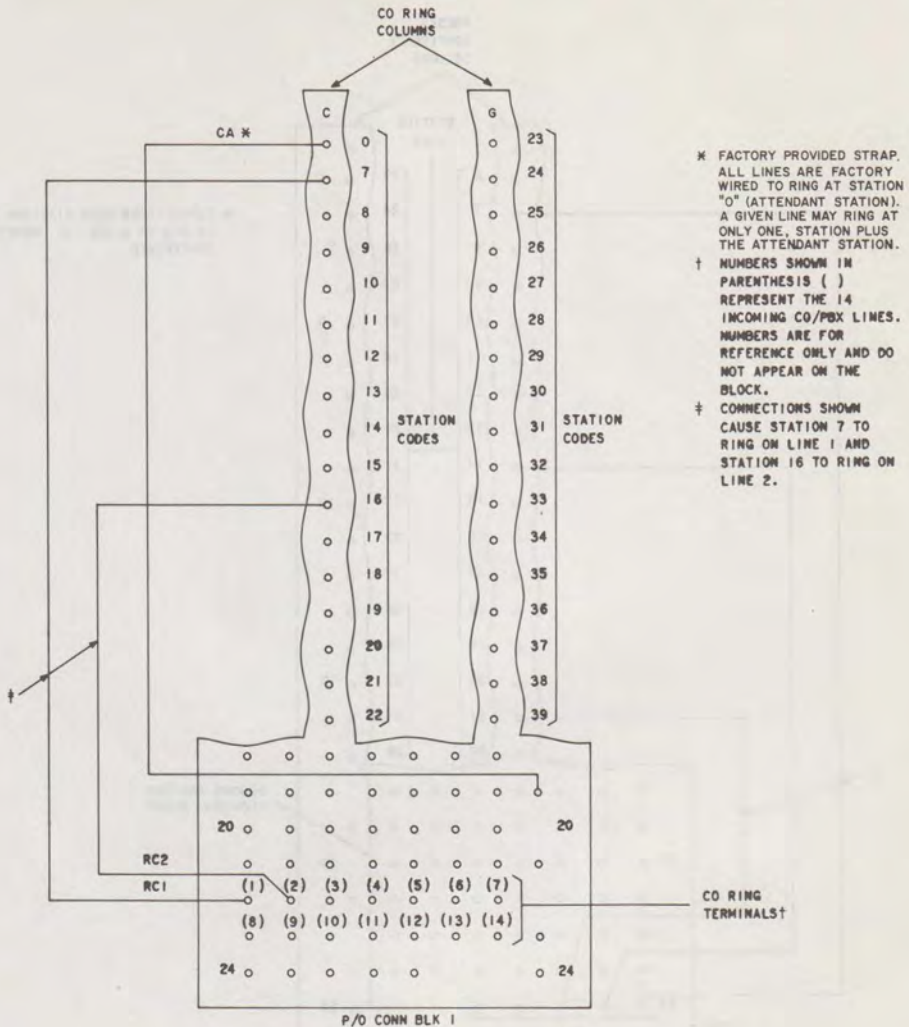

Fig. 25—Connections for CO Ringing
4.07 For CO ringing, a terminal representing each CO/PBX line is brought out on connecting block 1 (Fig. 25). To connect CO ringing, run a strap (RC) from the terminal representing the desired CO/PBX line to the terminal in column C or column G that represents the station code selected for CO ringing. See Fig. 25. In this instance, the first CO/PBX line will ring at station 7 and the second CO/PBX line will ring at station 16.